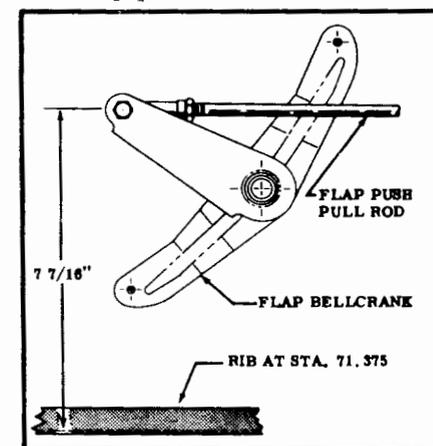

Figure 21. Flap Bellcrank Adjustment
- (2) Hold the flap in the full-up position by applying firm hand pressure upward and forward against trailing edge of flap.
- (3) Adjust the flap push-pull rod until the flap bellcrank is in the position shown in figure 21.
- (4) Release the hand pressure that was applied to the flap trailing edge in step 2 and tighten the flap-up cable turnbuckle located behind rear cabin door post until cable has a tension of 20-40 lbs.
- (5) Repeat steps 2 thru 4 for the opposite flap.
- (6) Move flap handle to the flap full-down position.
- (7) Tighten the turnbuckles of the flap-down cables until cables have a tension of 20-40 lbs.
Figures 21 to 27 inclusive outline the control systems, including control travel limits, location of control stops, and the location of turnbuckles. The use of the single wrap method using .040 monel wire for safetying turnbuckles is satisfactory and CAA approved. Rigging methods for the various systems are outlined below:
FLAPS (See figures 21 and 22).